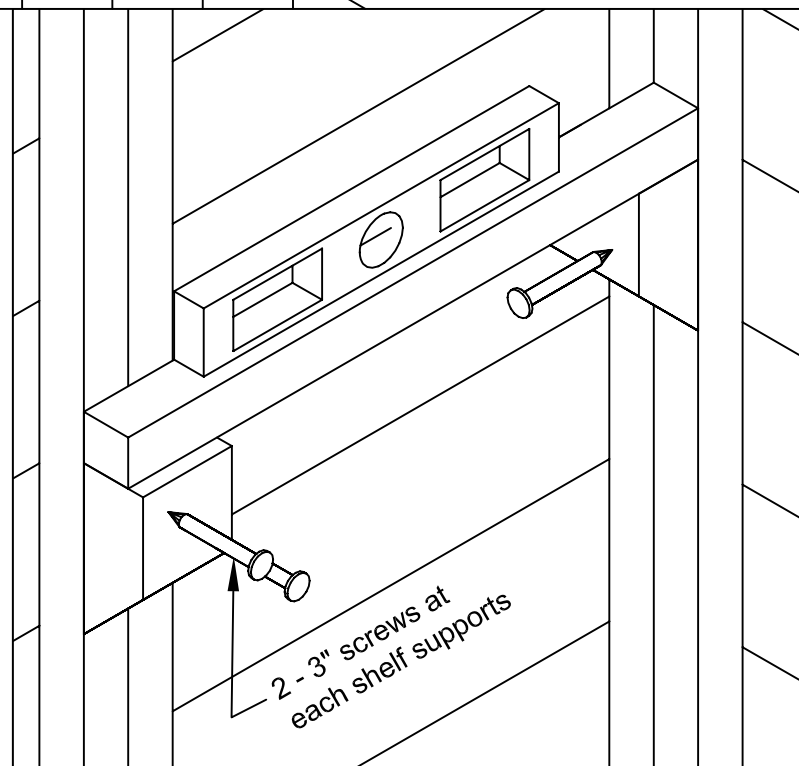

Figure S9
10. With the same procedure as above instructions, continue with both side walls, see Figure S9.